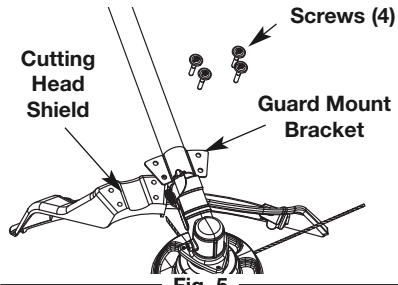

Fig. 5
- Place the cutting head shield onto the guard mount bracket, making sure to align the holes on the shield with the ones in the guard mount bracket. (Fig. 5)
- Using a Flat Head or T-20 screw driver, tighten the screws until the shield is firmly in place. (Fig. 5)